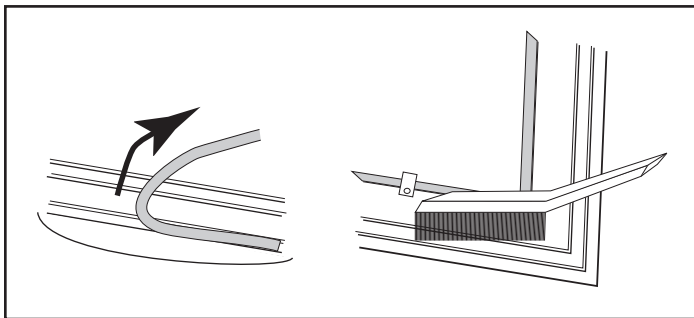

Figure 3.4 - Remove gasket then clean channel with wire brush.
1. Remove the existing gasket by grasping an end and pulling firmly. (Figure 3.4)